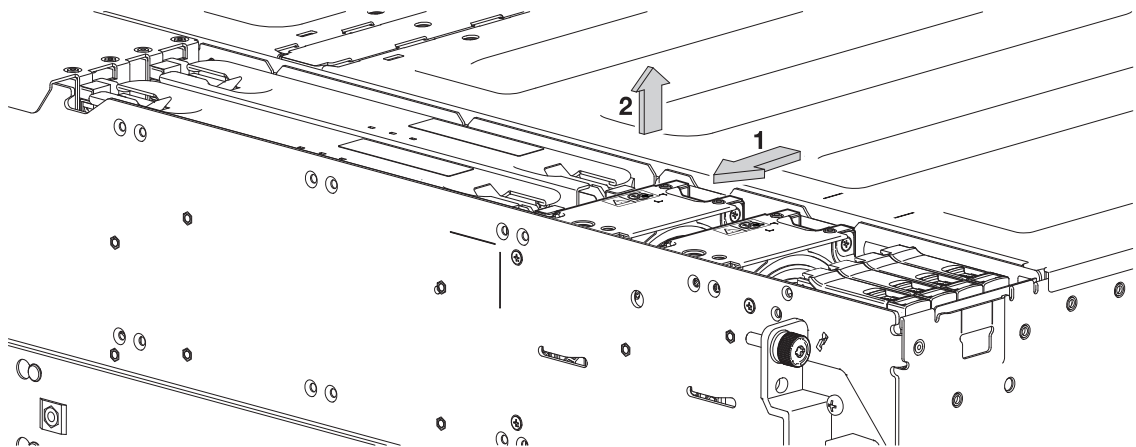
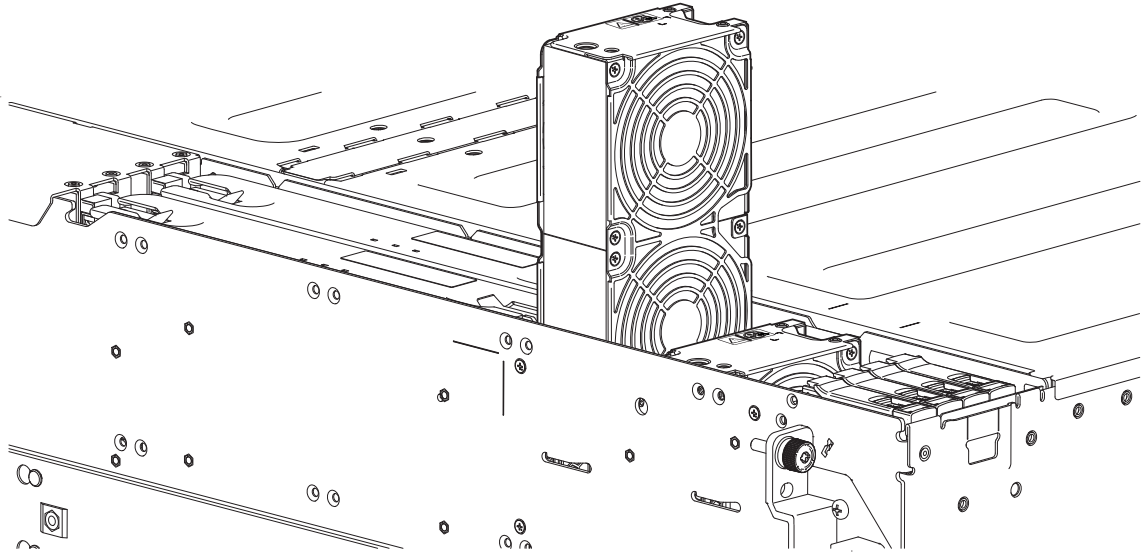

Figure 74 Removing a controller fan (1 of 2)
Figure 75 Removing a controller fan (2 of 2)
2. Grasp the latch tab on the interior channel wall of the enclosure, and squeeze the tab against the wall to release the channel fan from its locked position as shown in Figure 74.
3. With your other hand, grasp the handle located on the top of the fan, and pull it upwards to remove the fan from its slot as shown in Figure 75.
See Figure 74 \(page 95\) and Figure 75 \(page 96\) when performing this procedure, but ignore the directional arrow—since you will insert the fan module into the slot—rather than removing it.